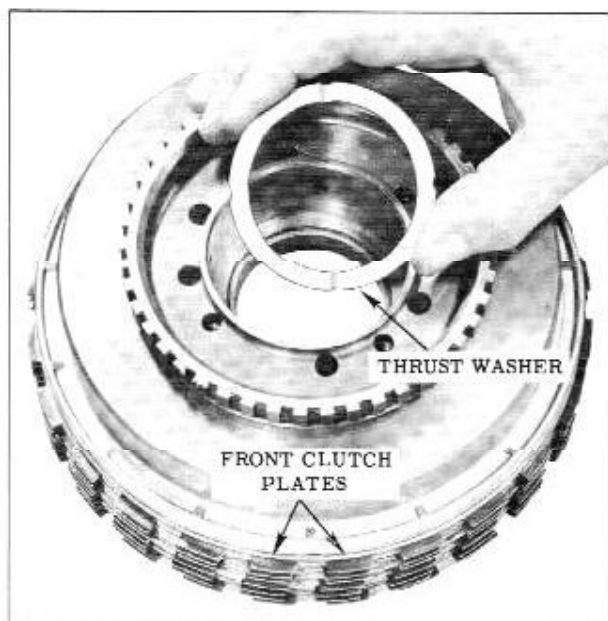

Fig. 3-87 Installing Thrust Washer
11. Install bronze thrust washer into recessed I.D. of front clutch housing bore using petroleum to retain. (Fig. 3-87)